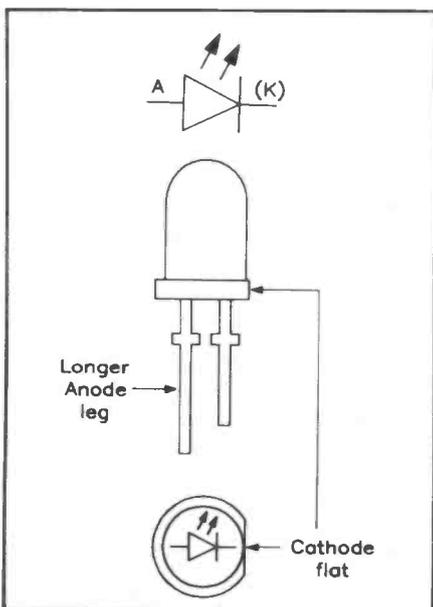

Figure 3. LED information.
All information required about soldering and assembly techniques can be found in the 'constructors guide' included in the kit (stock code XH79L). Removal of a misplaced component will be fairly difficult so please double-check each component type, value, and its polarity where appropriate, before soldering! The Printed Circuit Board (PCB) has a legend to help you correctly position each item, see Figure 2. Install all the components including the buzzer which is secured to the board using the 8BA screws and nuts. When mounting the red Light Emitting Diodes (LEDs) you must ensure that their polarity and positioning is correct. The cathode (K) is denoted by the shorter of the two leads and by a flat on the bottom edge of the package as shown in Figure 3.